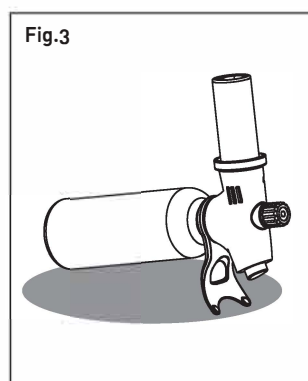

Fig.3
- 2.4 **Hand Protector:** The heat gun has a built in hand protector/vertical stand that allows for using it in the nozzle-up position. (fig.3)